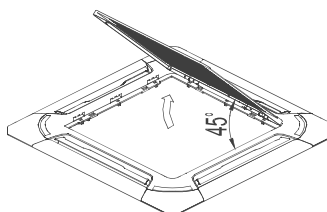

Fig. 5-8
- Draw the grill up to an angle of about 45°, and remove it. (Refer to Fig.5-8)